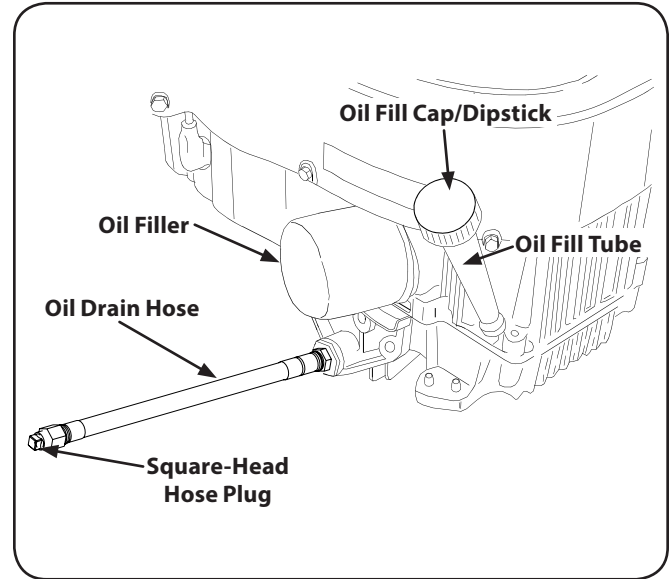

Figure 6-2
4. If your engine has the oil drain hose setup in Figure 6-2, see the Oil Drain Hose section below.
2. While holding the free end of the oil drain hose over the oil collection container, unscrew the square head hose plug from the end of the hose. See Figure 6-2. Drain the engine oil into the collection container.